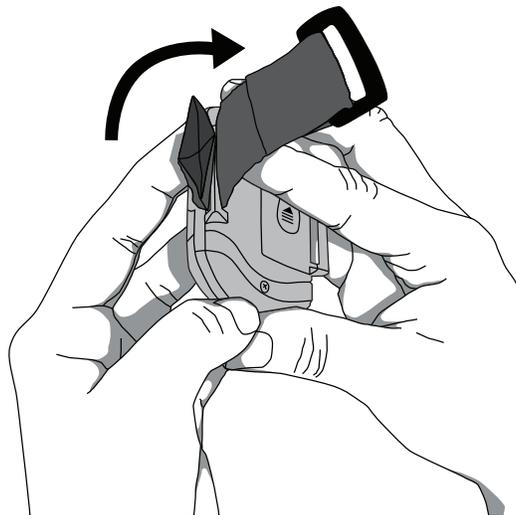

Figure 7: Attach Ring Strap
5. Fold strap so fastener adheres to the strap (figure 7).